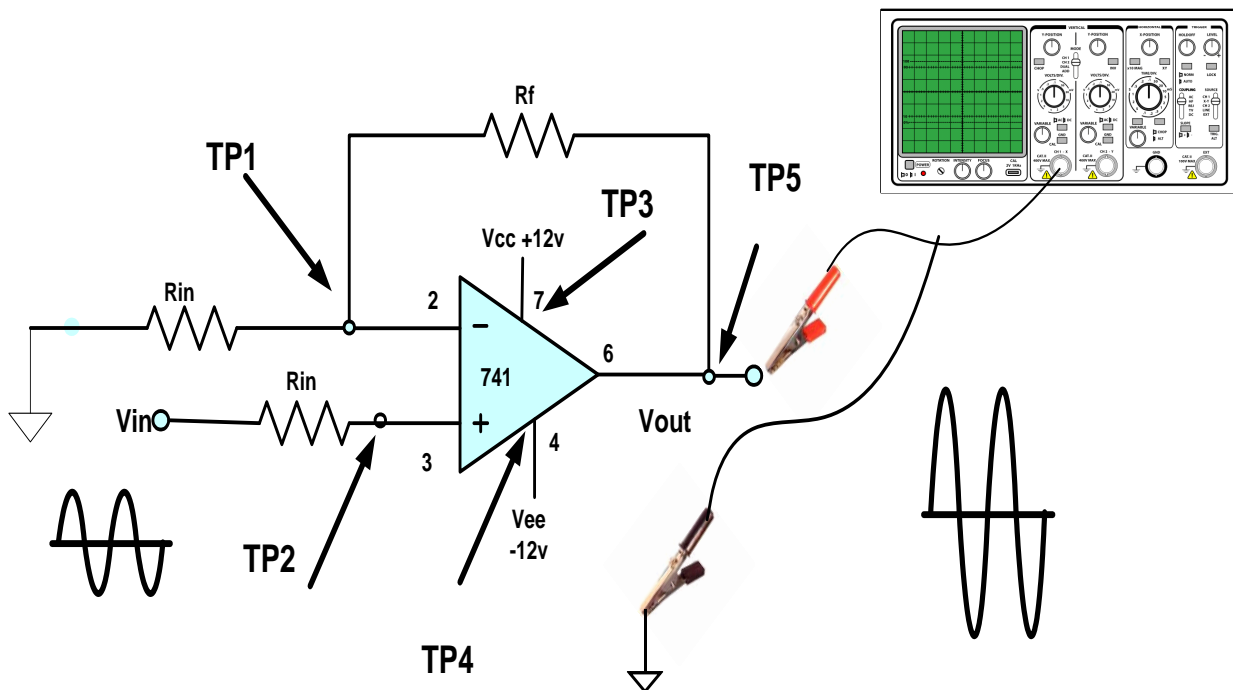

Figure 4.2
1. Assemble the circuit as shown in the Figure 4.2